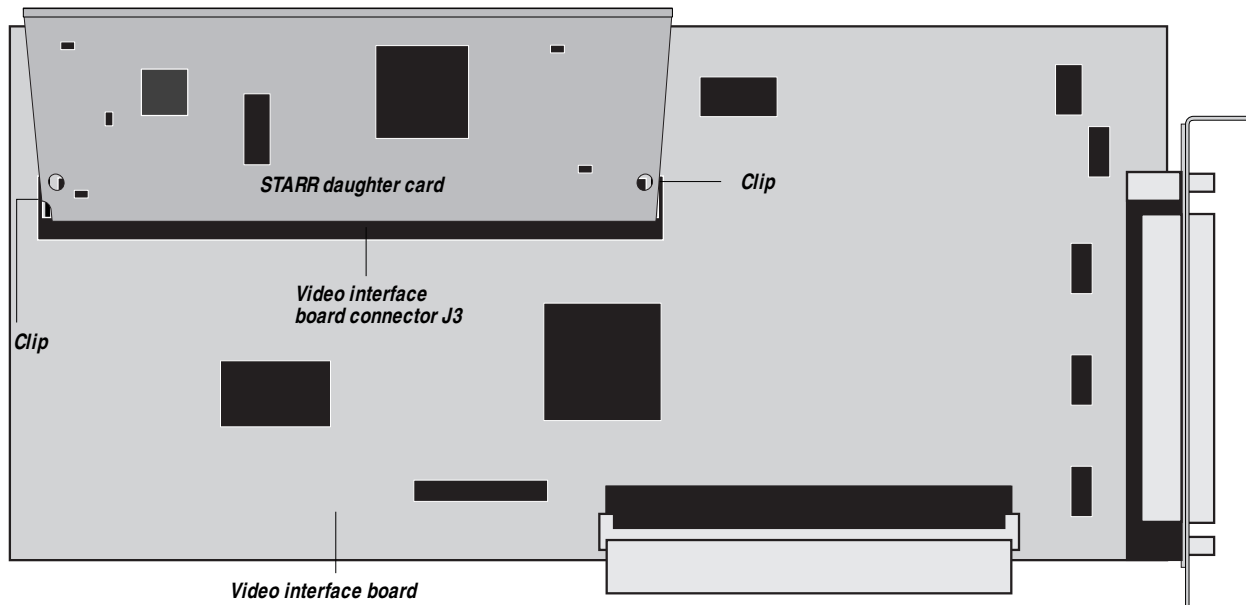

Figure 5-12 Installing the STARR daughter card
1. *Slide the STARR daughter card into connector J3 on the video interface board at a 45-degree angle (see Figure 5-12).*